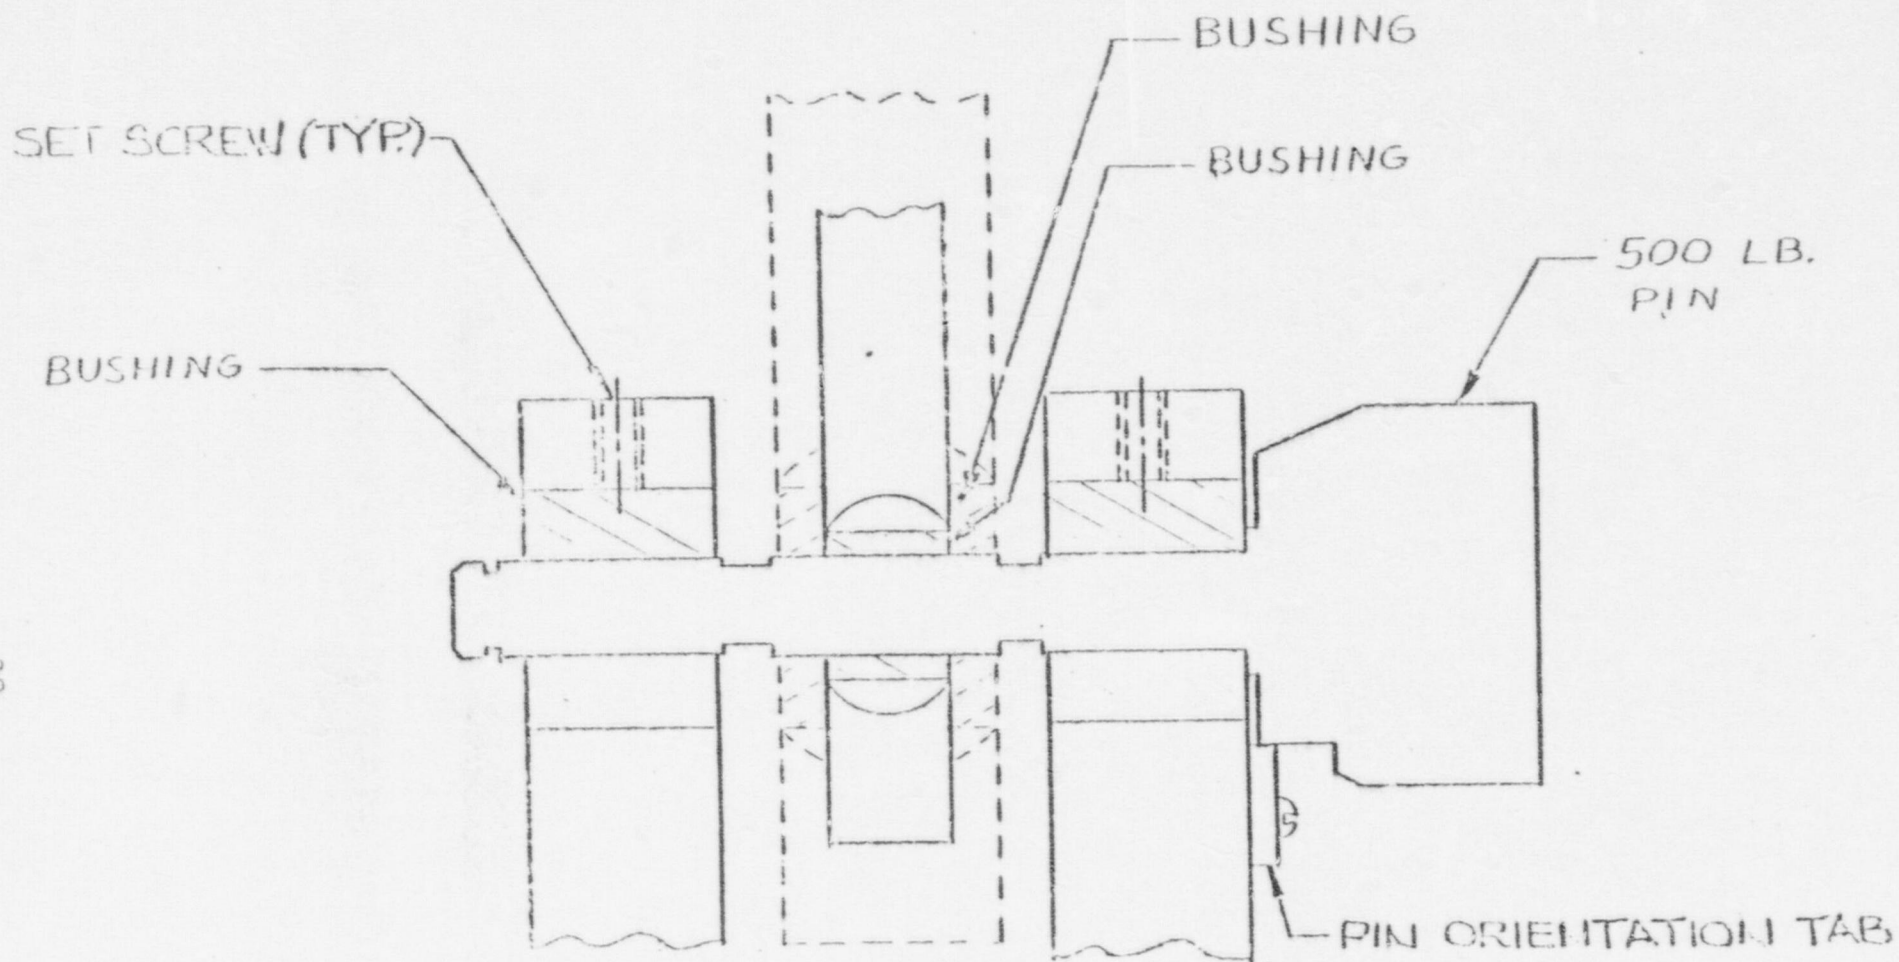

FIGURE 6
1.2 Pin installation is per Figs. 6, 7 & 8.